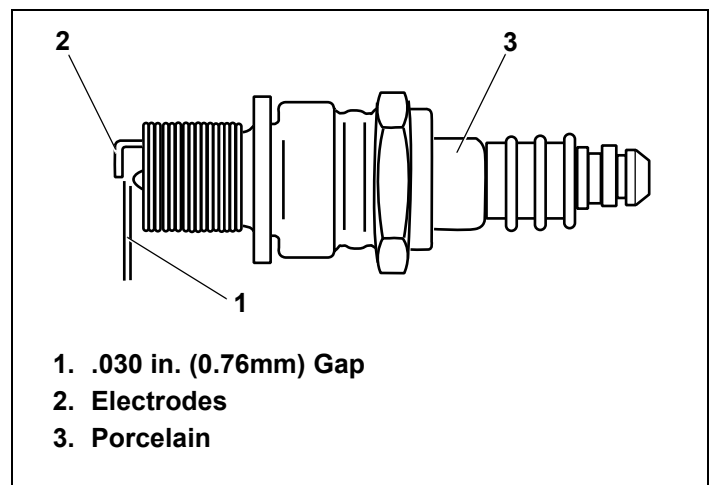

Figure 47. Resistor Spark Plug
4. Check electrode gap with wire feeler gauge and set gap to—.030 in. (0.76mm) if necessary. See Figure 47.